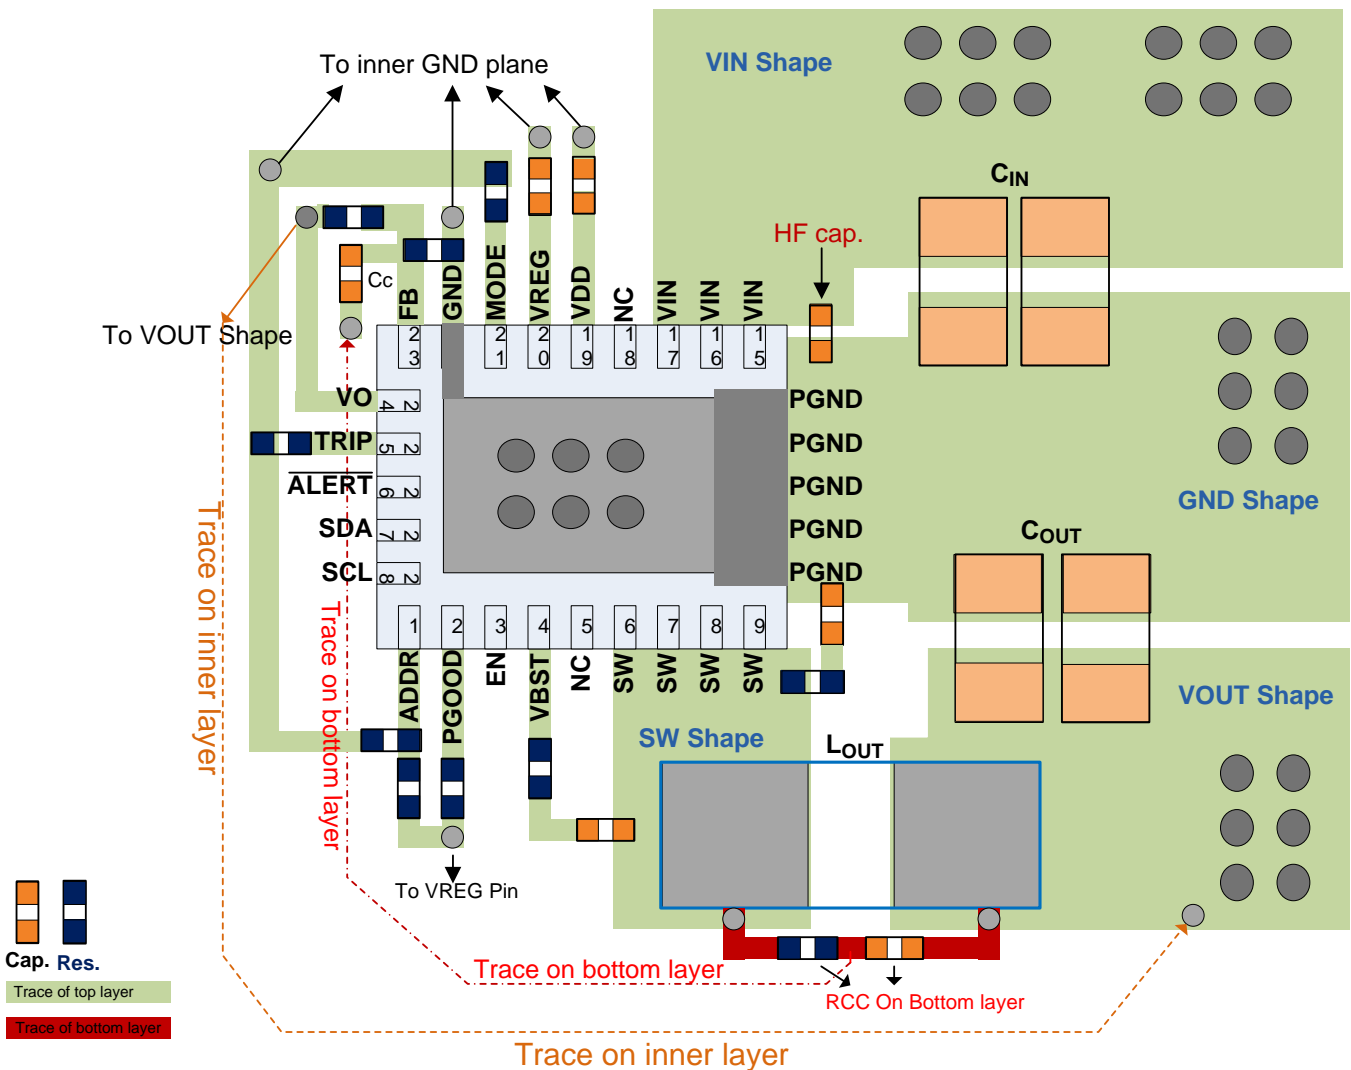

Figure 53. Layout Recommendation
- See Figure 53 for the layout recommendation.